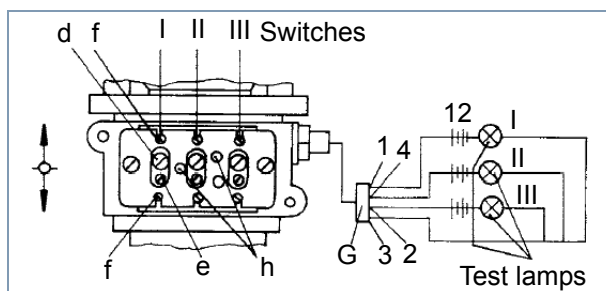

Fig. 4 Connection of the test lamps
- Release cylinder screw d (see fig. 4).
- Tighten set screw e until cut in point is reached (see fig. 4).
- Turn cylinder screw with M = 1.2 Nm (see fig. 4).
- Release cylinder screw f of the concerning switch slightly (see fig. 4).
- On the cylinder screws f (see fig. 4) move the concerning switch in direction OFF and then in direction ON until cut in point is reached.
– Insert plate 461 908 107 4 in the locating bore h (see fig. 4).